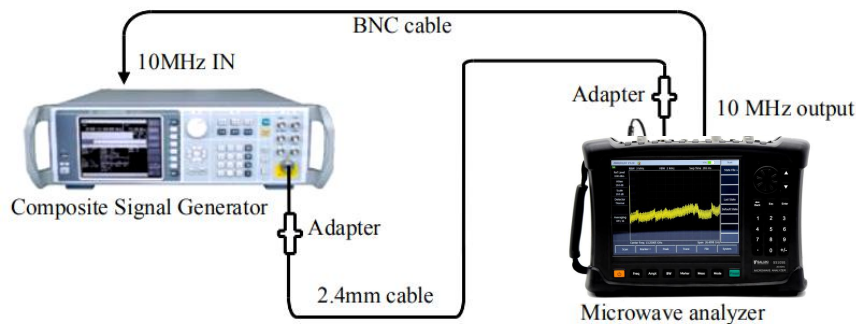

Figure 5-38 Block Diagram for Testing Mirror, Multiple, and Out-of-Band Response
- 1) Connect the test equipment according to Figure 5-38. The microwave analyzer is used to provide reference frequencies for the composite signal generator.